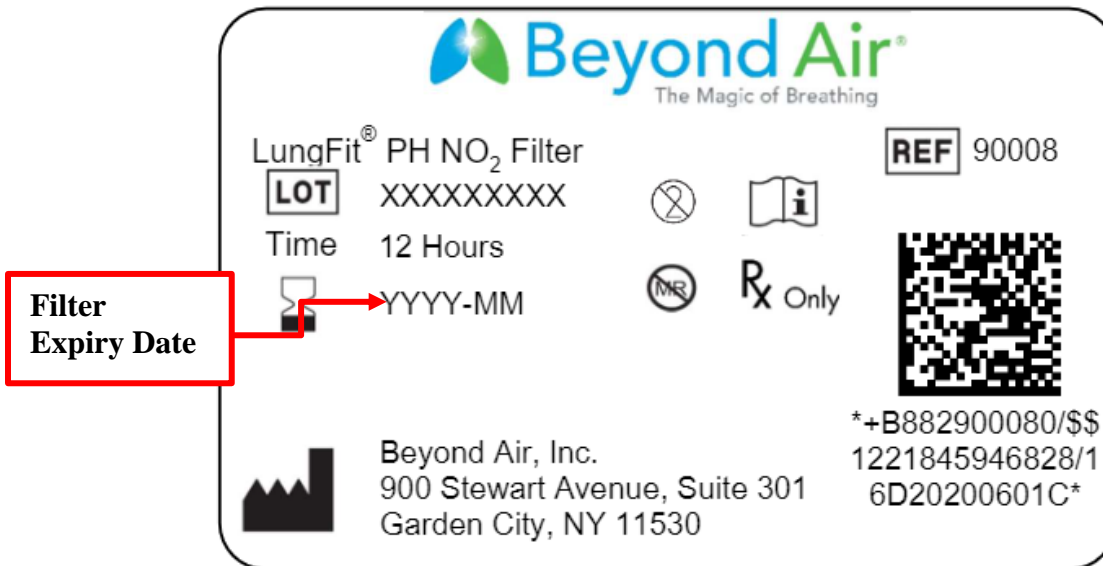

Figure 22: LungFit PH 12 Hour Filter Package Label with expiry date (arrow)
- From the NO₂ filter package label, confirm filter is not past its expiry date (*see Figure 22*). Note that the expiry date is also stored electronically on each filter and an '**NO₂ Filter Expired**' alarm will be triggered if there is an attempt to use an NO₂ Filter past its expiry date.